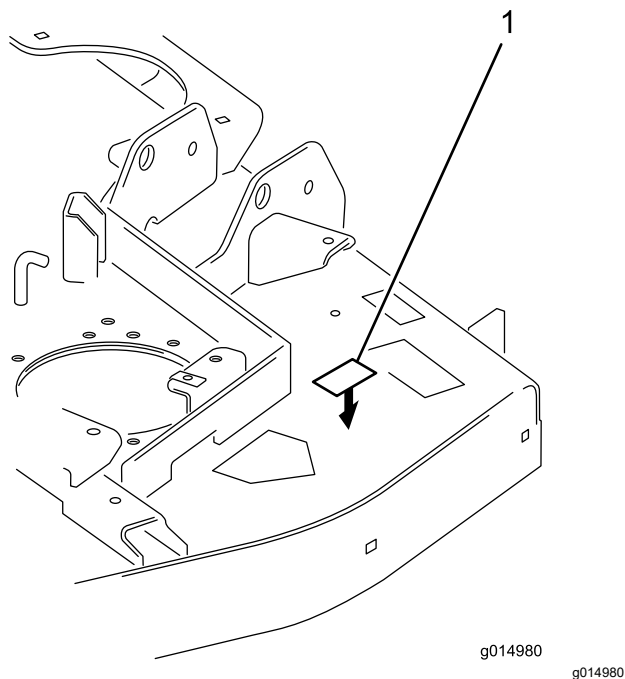

Figure 15
13. Affix an identification decal to the top of the mower deck near the serial plate (Figure 15).